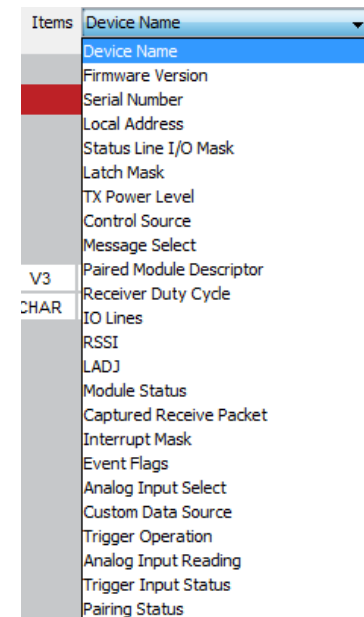

Figure 19: The Master Development System Software Demo Command Set Tab Items Menu
4. The Items drop down menu displays all of the items that are available for the active module (Figure 19). Selecting one of the items from this menu automatically fills in the Command box. The values can be adjusted by typing in the box.